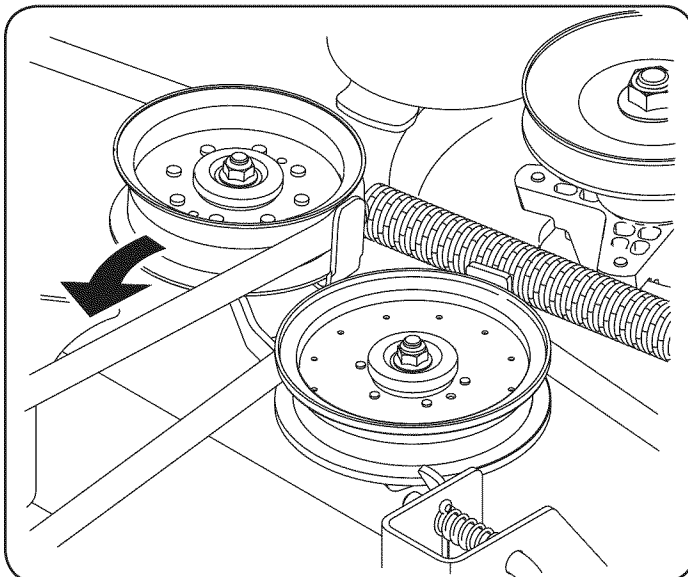

Figure 32
- b. Working from the middle of the tractor, pivot the idler bracket and movable idler pulley rearward away from the backside of the 'V' belt just far enough to lift the belt up and over the idler pulley. See Figure 32.